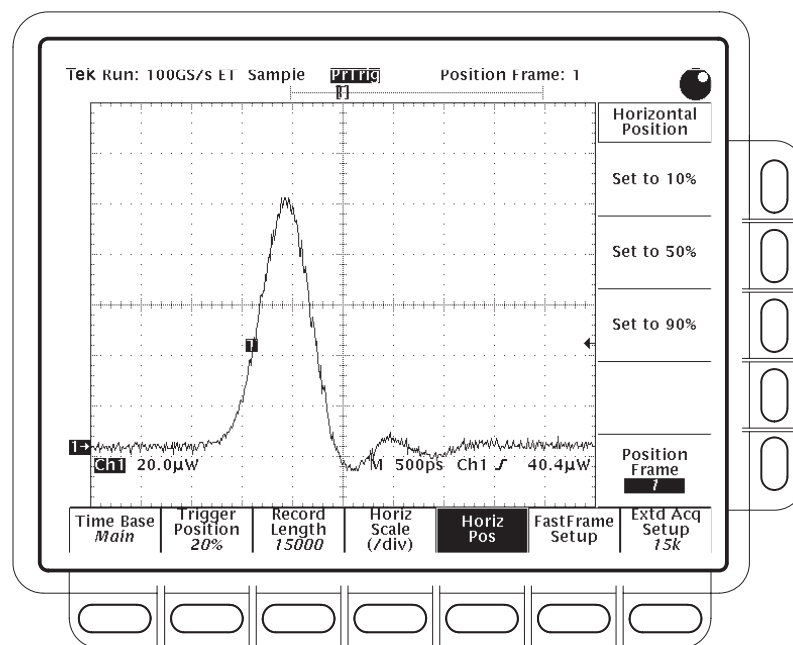

Figure 4–43: Optical impulse of Ch1 input from OA5022 Optical Attenuator (OIG501 / OIG502 fed into optical attenuator in Step 1)
- Adjust the **HORIZONTAL POSITION** to move the 20% trigger point onto the display (see Figure 4–43).